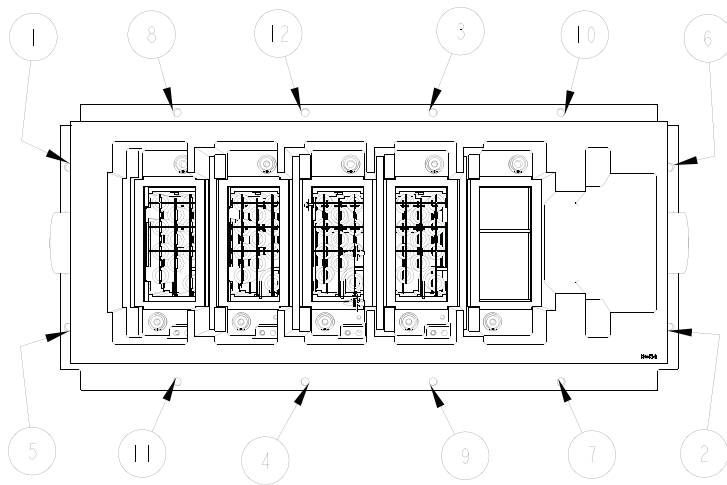

Figure 46 - Typical torque sequence
6. When replacing the PowerCage, it is important to place the bolts on the outer flange in loosely. Torque bolts alternately on one flange and then the opposite flange to ensure even tightening of the module. Use the suggested torquing sequence shown in Figure 46.